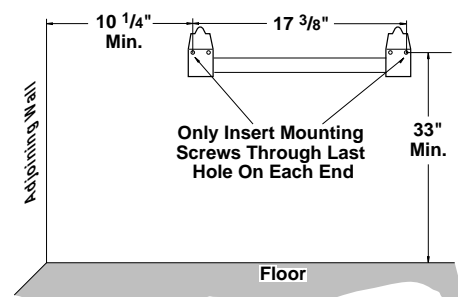

Figure 8 - Mounting Bracket Clearances
2. Mark screw locations on wall (see Figure 8).